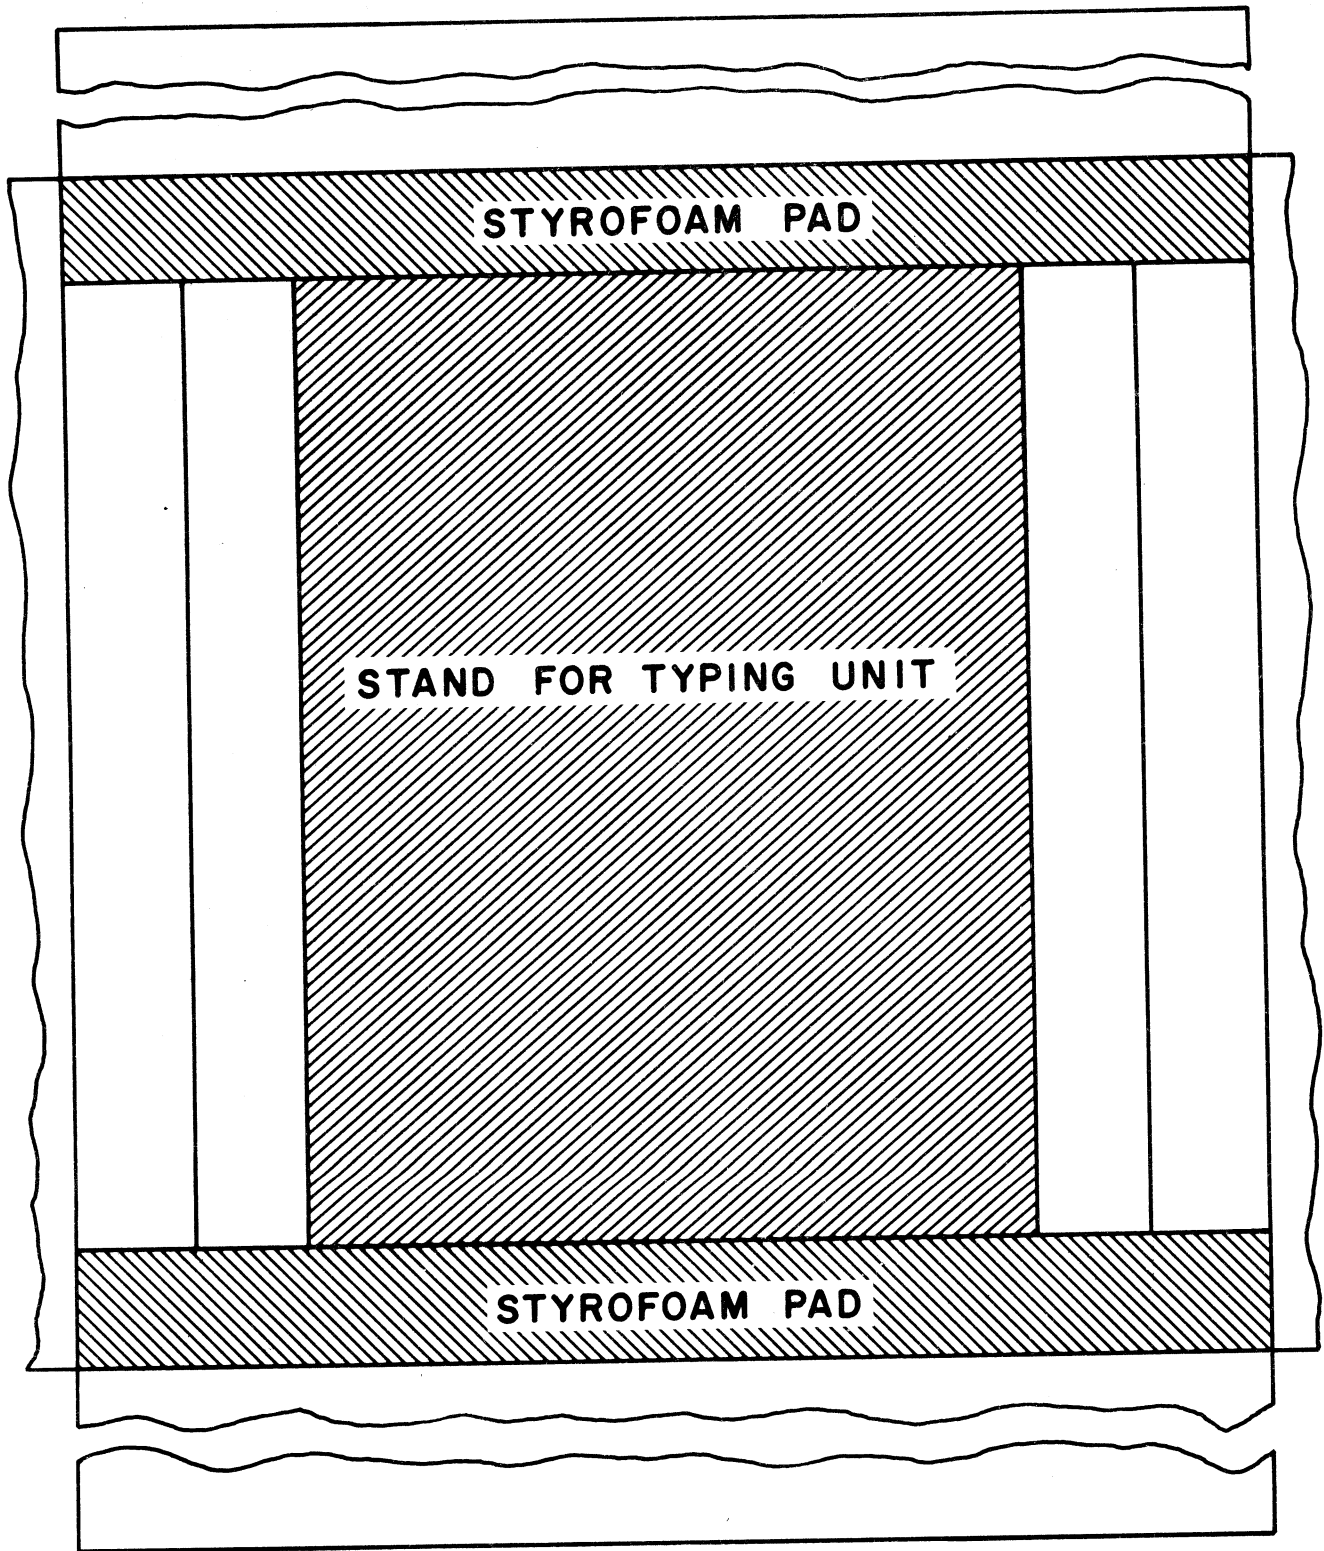

Figure 2-1. Location of Styrofoam Pads
- a) Remove Styrofoam pads (2). (See Figure 2-1.)